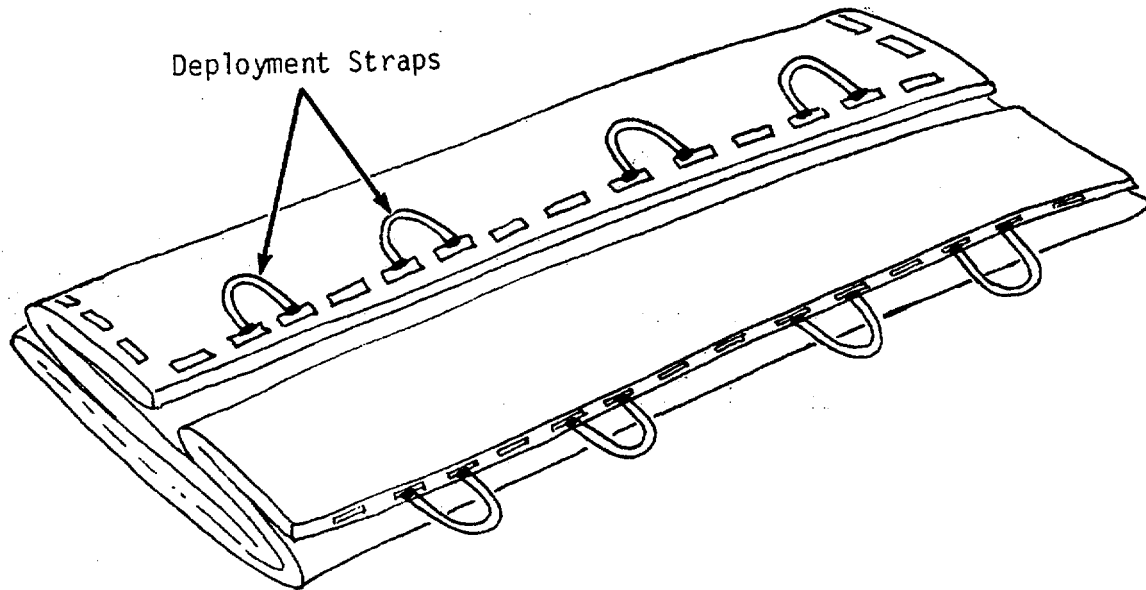
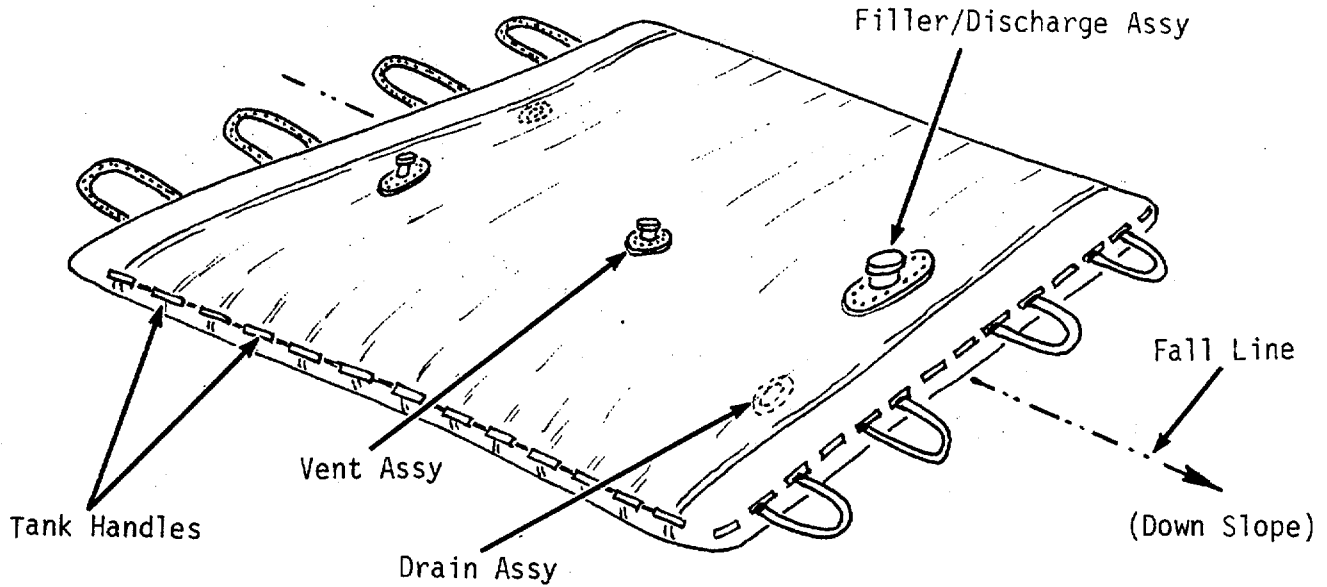

Figure 2-6. Tank Fully Unrolled (Two S Folds)
Figure 2-8. Tank Fully Unfolded
- k. After skid is removed, unroll the remaining section of tank by pushing on roll. (See Figure 2-6).
1. Unfold tank by pulling each row of deployment straps in opposite directions. (See Figure 2-6 and 2-7.) This will extend the two top folded layers. (See Figure 2-8.)
Tank should now be in the same position as illustrated in Figure 2-6.